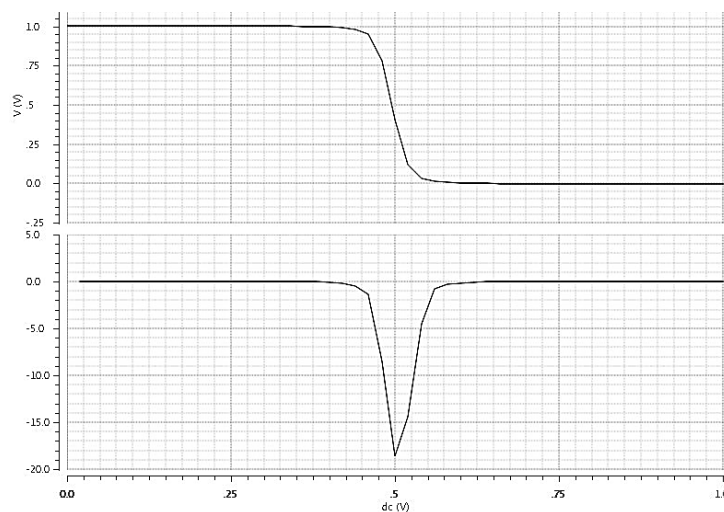

Figure 4.9: DC Plot with derive function
- (f) Click **Evaluate** buffer, which results in Fig.4.9.